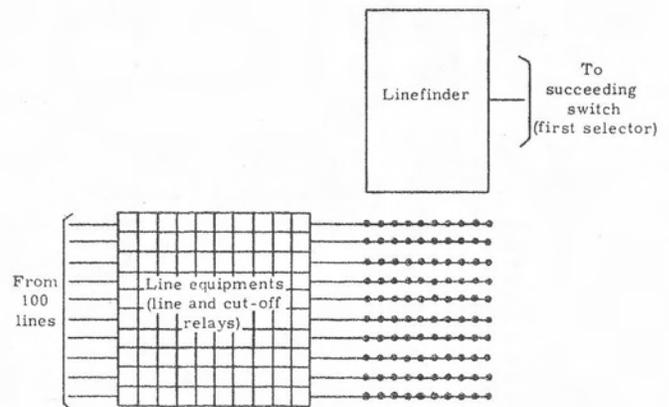

Figure 2. Relationship of 100 lines and line equipments and a linefinder.
1.2 The 100-line linefinder. Under control of its relays, the 100-line linefinder can connect any of one hundred lines to one link. When the subscriber lifts his handset, the line equipment associated with his line (figure 2) operates, busies the calling line to other callers, marks the line's contact on the linefinder banks, and starts the linefinder. The linefinder lifts its wipers to the level that the line is in, rotates its wipers to the calling line's contacts, and switches the calling line through to the first selector (or connector) which returns dial tone notifying the calling party to dial. The only action upon the part of the subscriber has been the lifting of the handset.